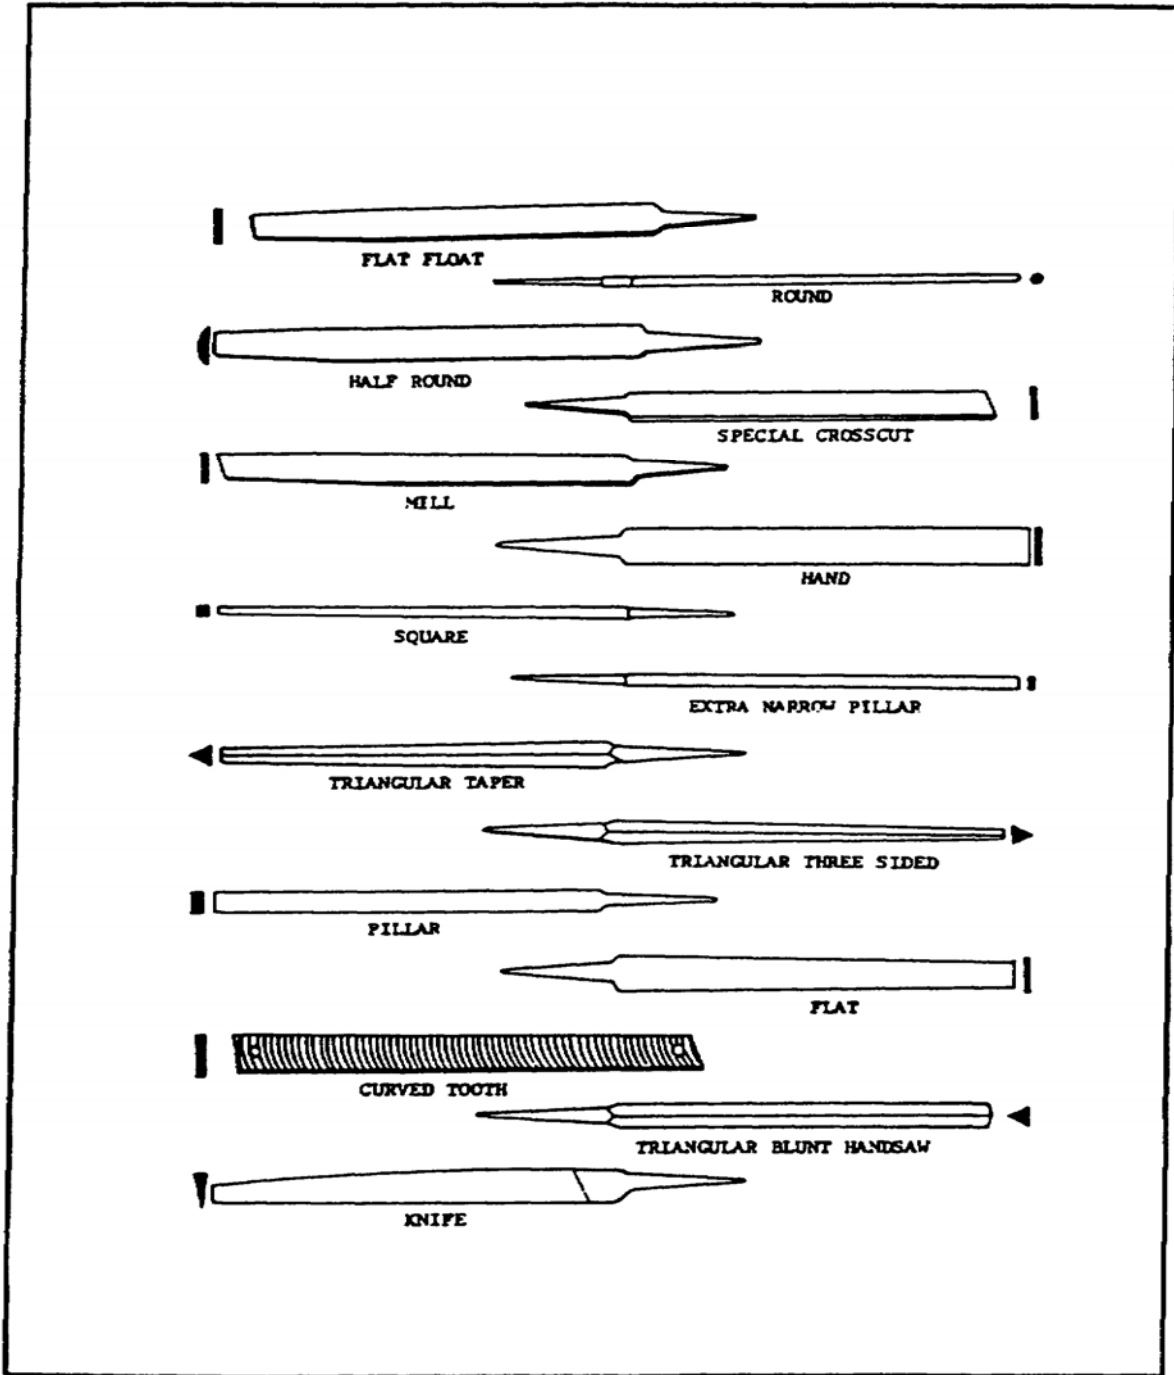

FIGURE 95. TYPES OF FILES.
b. *Types of Files.* Files (figure 95) are made in various lengths, shapes, cuts, and teeth-spacing. Every file has five parts: the point, edges, face or cutting teeth, heel or shoulder, and tang (figure 96).